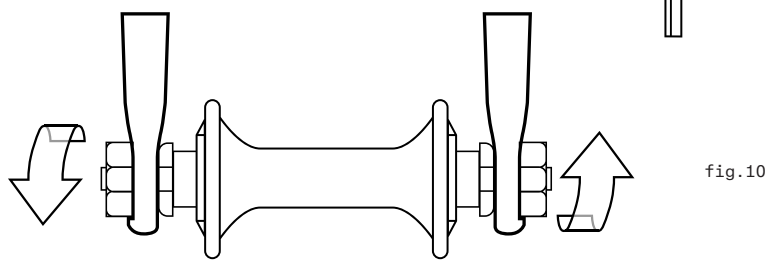

fig.10
3. Hex nuts or hex key bolts which are threaded on to or into the hub axle (bolt-on wheel, fig. 10).